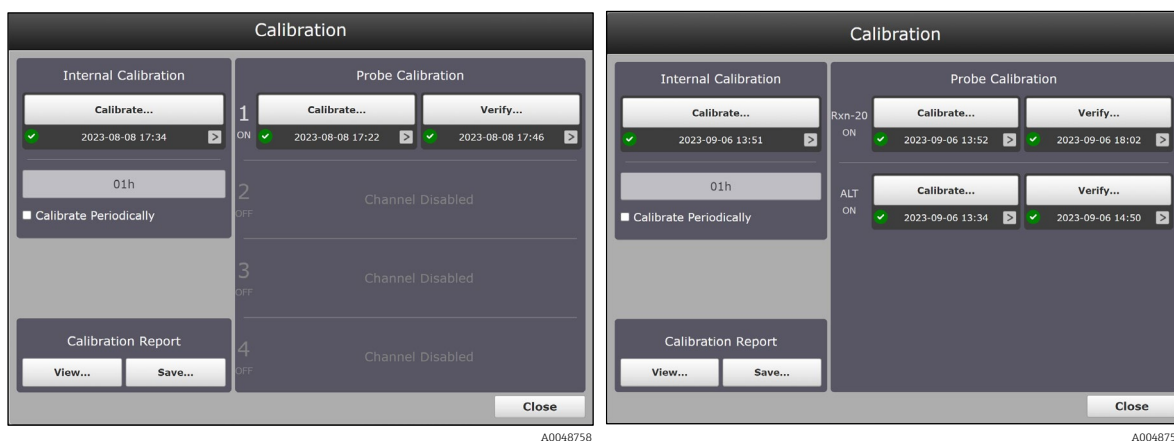

Figure 25. Calibration window for a Raman Rxn single-channel analyzer (left), Raman Rxn analyzer with hybrid configuration (right)
- **Single-channel analyzer** and **Hybrid configuration**, see Figure 25.